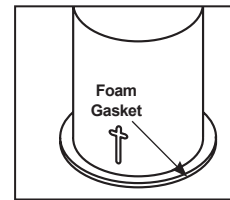

Figure 3
**Step 3.** Locate Air-Loc gasket kit envelope supplied in fixture carton. Place foam gasket on the top surface of the metal ring of can (Fig 3).